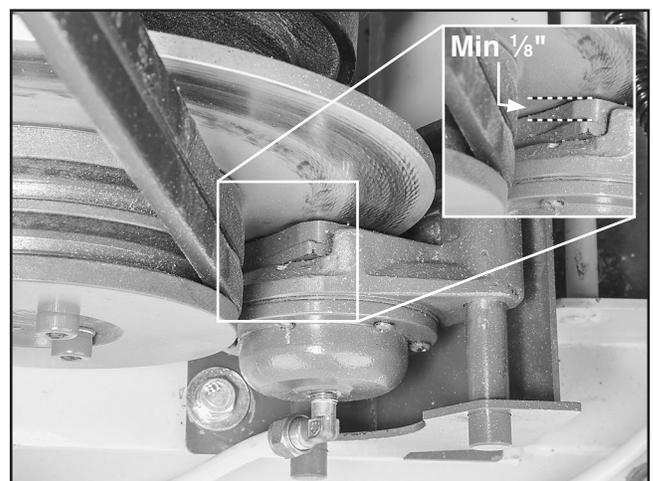

Figure 84. Example of brake pad to measure (outer brake pad shown).
4. Measure thickness of each brake pad. Brake pads consist of a metal plate with a composite pad. Measure thickness of composite pads only (see **Figure 84**).